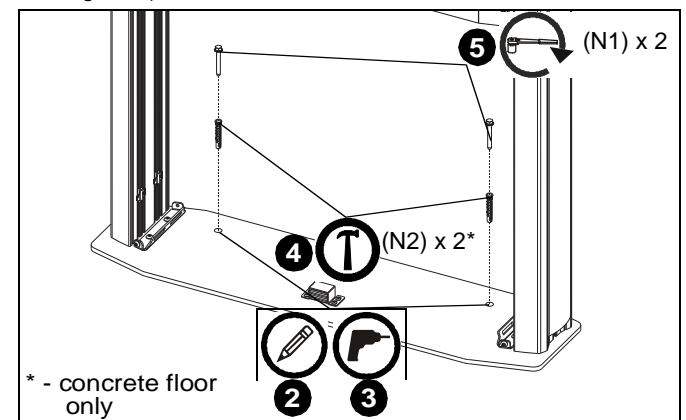

Figure 7
2. Mark hole locations at each floor mounting location. (See Figure 7)
3. Drill two 7/32" holes if installing to wood floor or 3/8" holes if installing to a concrete floor. (See Figure 7)
4. If installing to concrete floor only, use a hammer to install anchors (N2) to two holes drilled in floor. (See Figure 7)
5. Install two 5/16 x 2 1/2" hex head cap screws (N1) through floor holes and into drilled holes in floor or anchors. (See Figure 7)